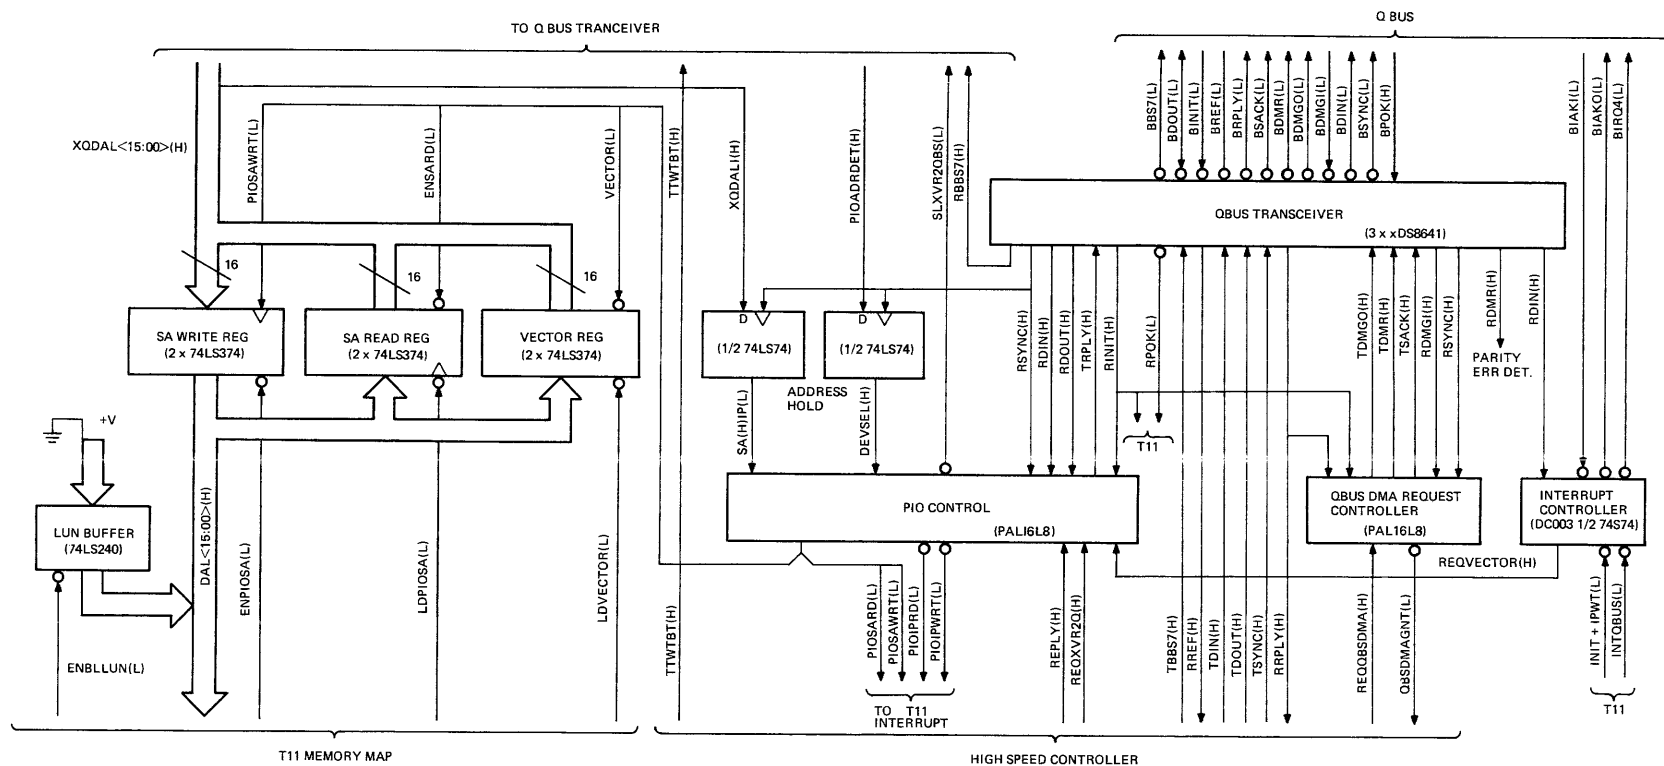

Figure 2-6 Interrupt Vector Register, SA Registers and QBus Interface Logic
During an interrupt sequence, the contents of the interrupt vector register (Figure 2-6) are gated to the QBus to be used as the vector. The MSCP initialization function supplies the T-11 chip on the RQDX1 controller module with the vector number. The T-11 chip loads this number into the interrupt vector register.
The status and address registers (SA) shown in Figure 2-6 are used by the T-11 chip and the QBus processor for the MSCP port initialization sequence. Both SA registers occupy the same QBus I/O page address.
The RQDX1 controller module interfaces to the QBus through QBus drivers, QBus receivers, and control circuits. The control circuits, shown in Figure 2-6, provide the handshake signals necessary to interrupt the QBus, obtain control of the QBus for DMA, and interface the programmed SA and IP registers to the QBus.